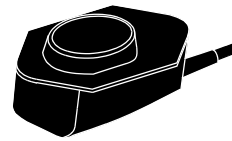

Figure 5-9 Pediatric Paddle (Bottom)
- 4 The pediatric paddle is now exposed and ready for use (refer to Figure 5-9).